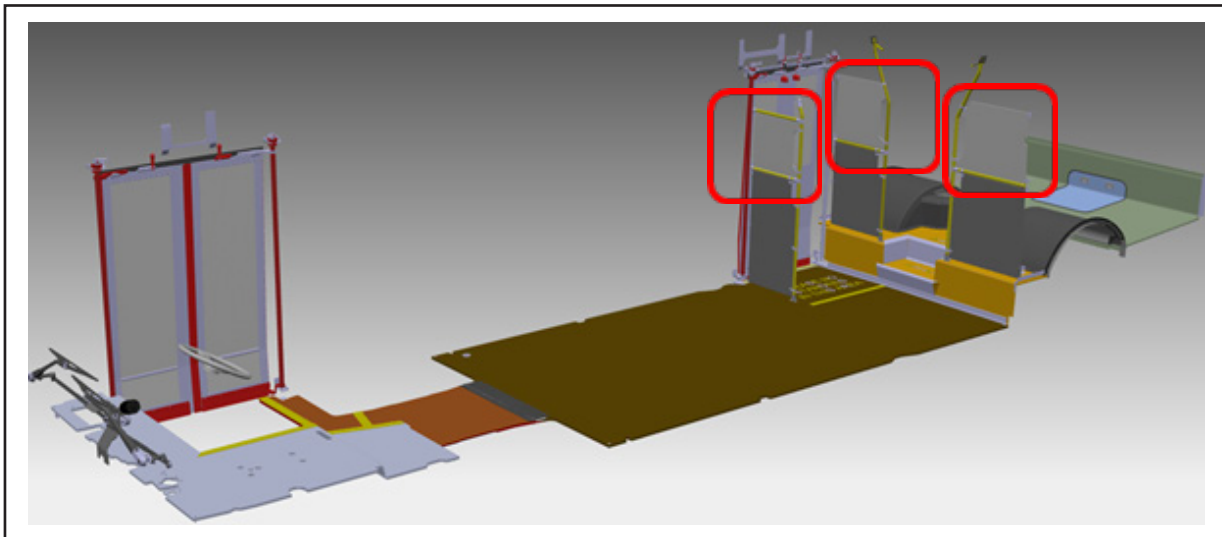

Figure 1 - Location of Grommets inside the bus
- 1.4. Locate grommets to replace inside the bus (see figure 1).